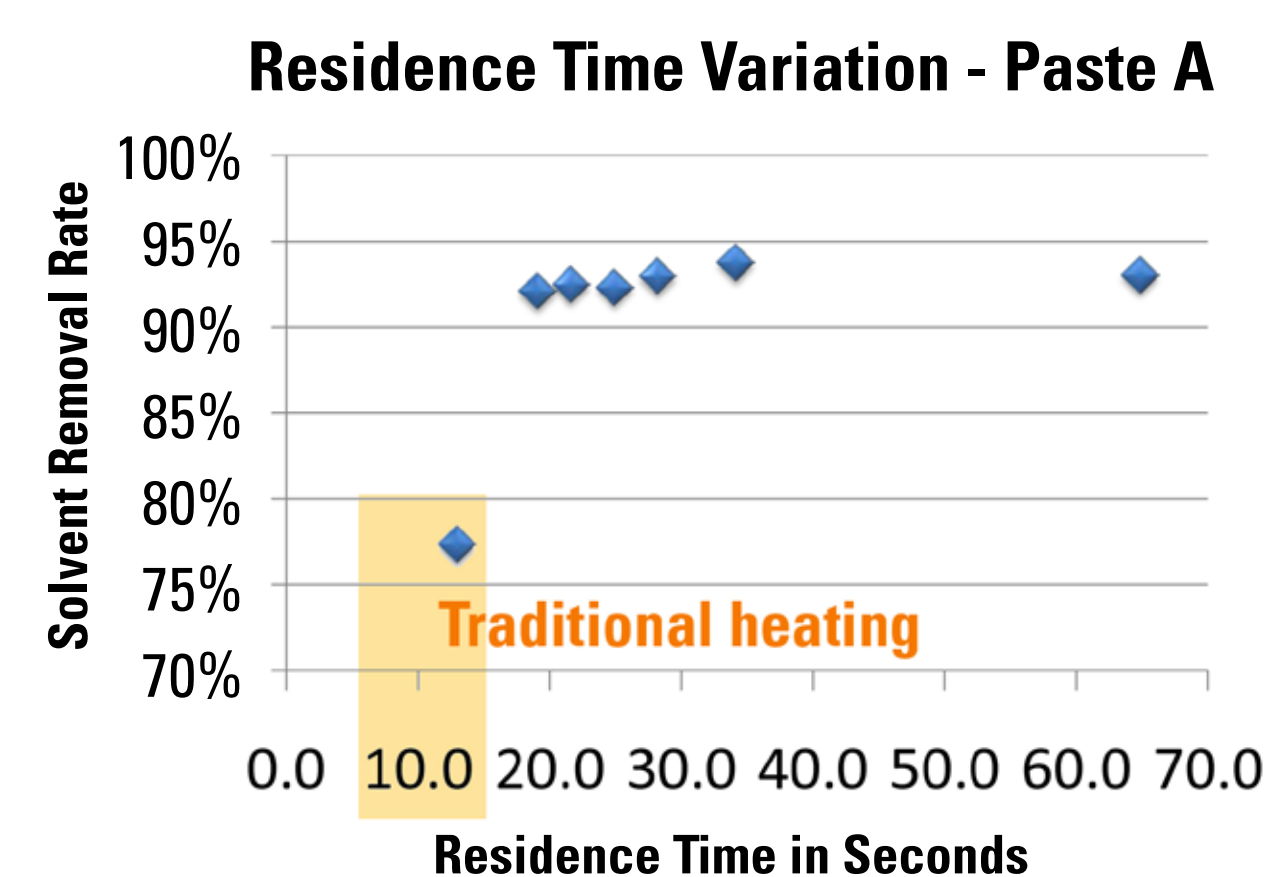

Figure 4: Impact of residence time on solvent removal rate for difficult to dry Paste A with a traditional heating mechanism
- ◆ Traditional dryer : Minimum residence time 20s (figure 4)